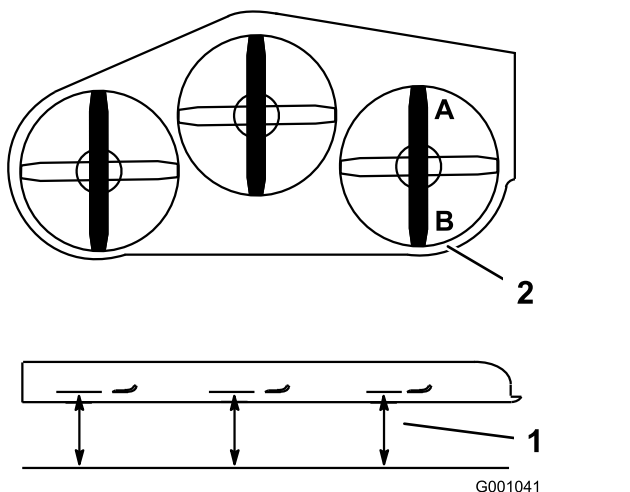

Figure 95
2. Position 1 blade front-to-rear. Measure at **A** and **B** locations from a level surface to the cutting edge of the blade tips (Figure 95).